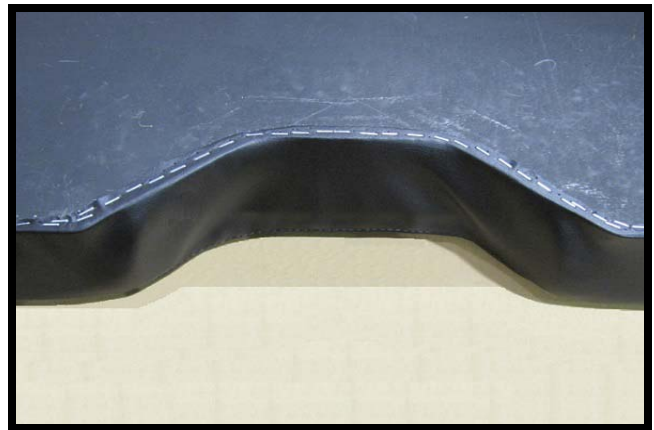

FIGURE 14
20. Once completed the bottom seat bench should look as follows. If needed, additional staples may be installed. See Figure 14.